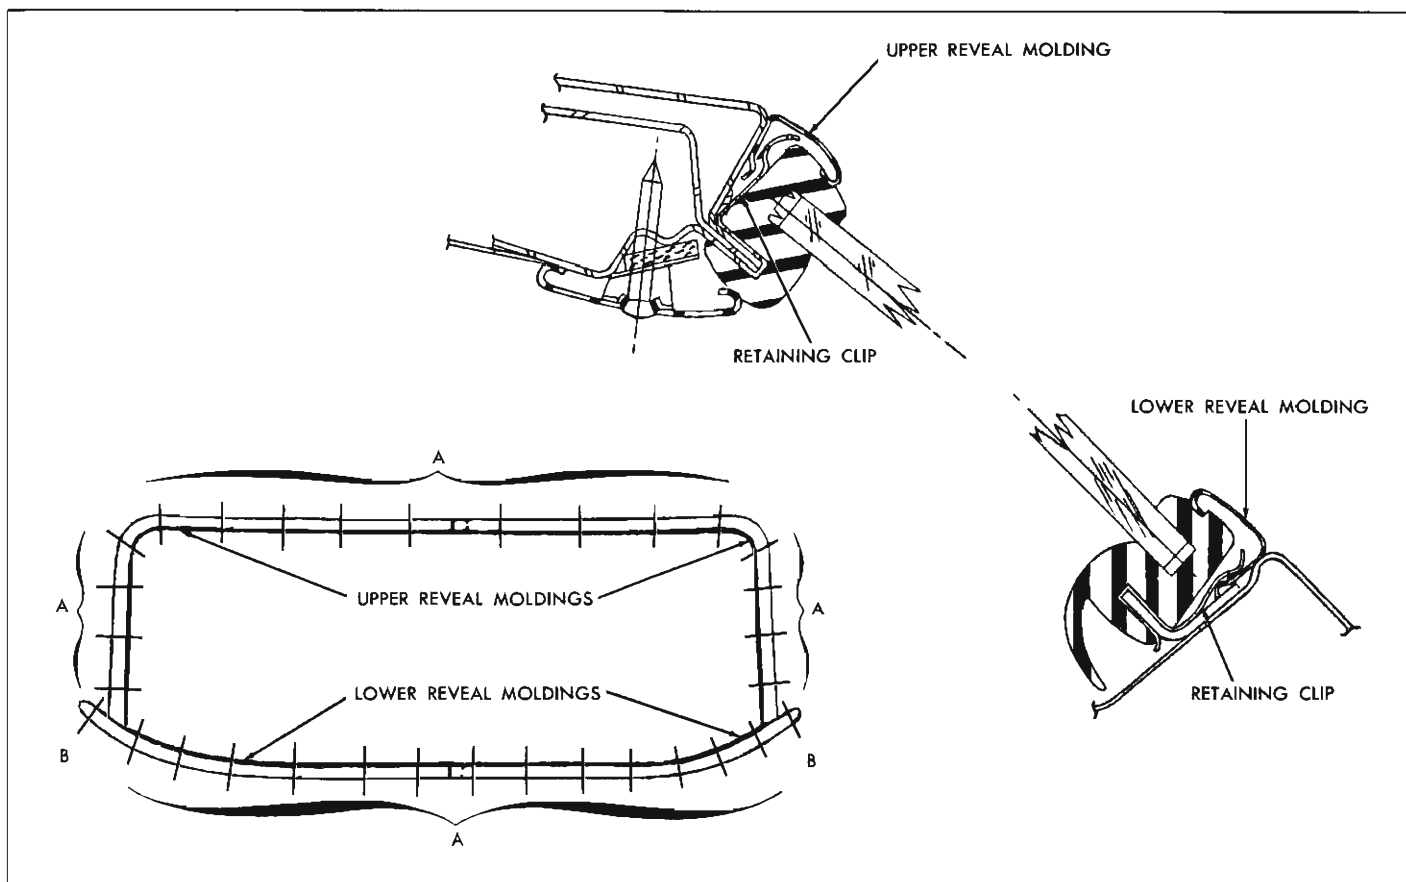

Fig. 30—Back Window Reveal Moldings—1937 Styles
**Upper Reveal Moldings (Fig. 30)
**Lower Reveal Molding (Fig. 30)